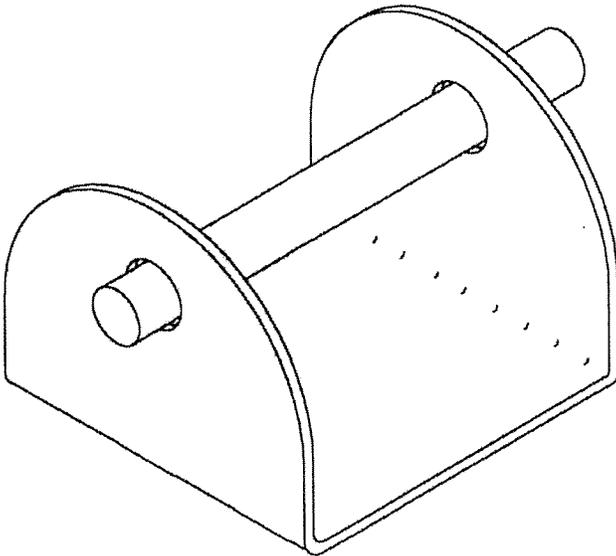

Figure 5-4. Bracket Type Wire Roll Mount
- d. A bracket type wire roll mount (Figure 5-4) uses a bolt or section of dowel for a roller and may be mounted on a vertical or horizontal surface.